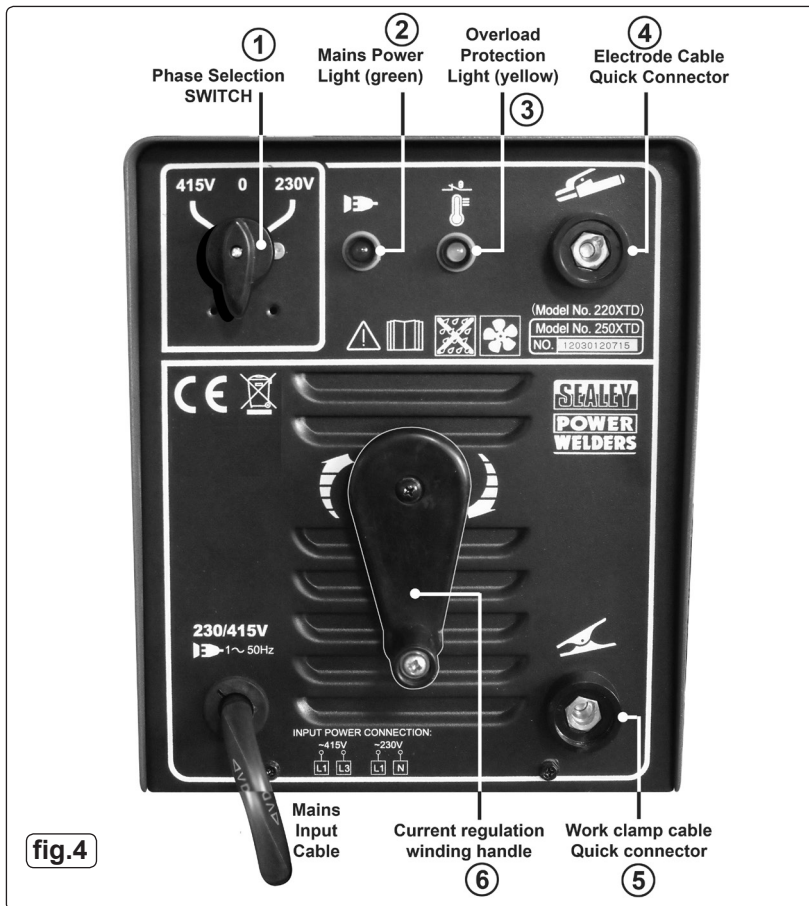

fig.4
- 7.2. Current regulation.** The intensity of the welding current can be adjusted continuously by means of a manually operated magnetic shunt. See fig.4-6. The value of the current ( $I^2$ ) may be read in amps on the graduated scale on the top panel of the welder (See fig.4).